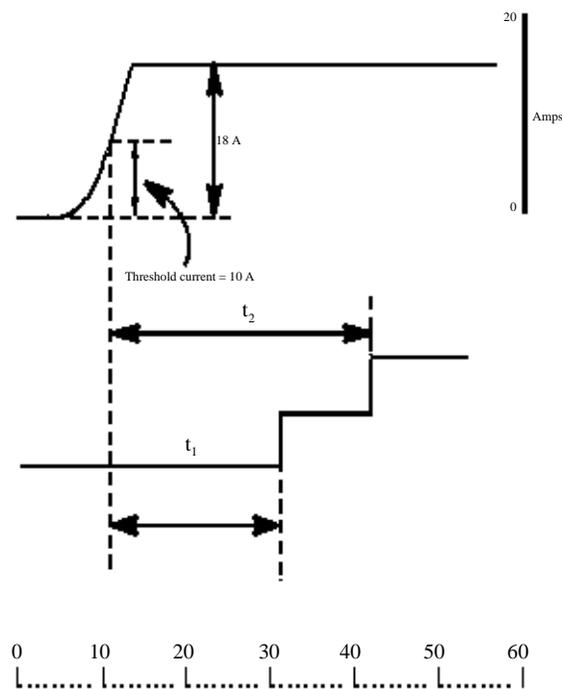

Figure 141 Close Timing from Current Measurement
The measurements in Figure 141 were calculated using an external current probe with a selected range of 20 A. The timing of the main contact (t_2) and resistor contact (t_1) is calculated in this way:
2. The designated channel reaches the threshold current (10 A in this example) of the full scale current selected for that channel (Figure 141).